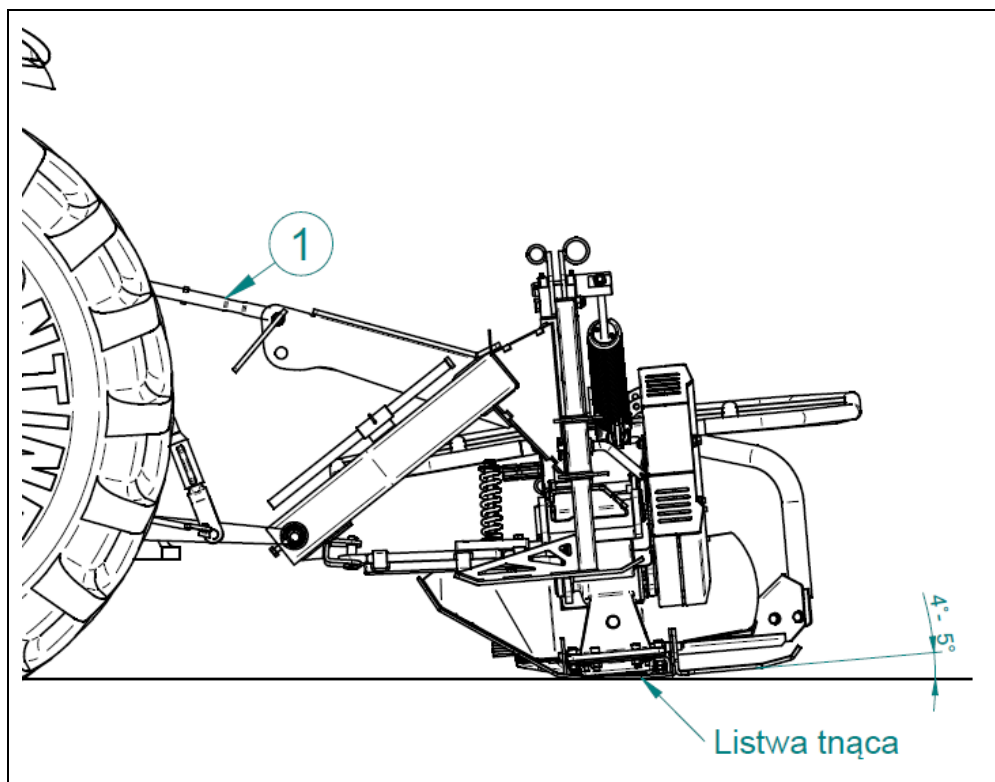

Fig. 13 Adjusting cut height
After adjusting the suspension, adjust the height of cut by adjusting the length of the connector (1) to obtain the $4\div 5^\circ$ angle from the ground. Decreasing the angle causes increasing the height of cut, Fig. 13.